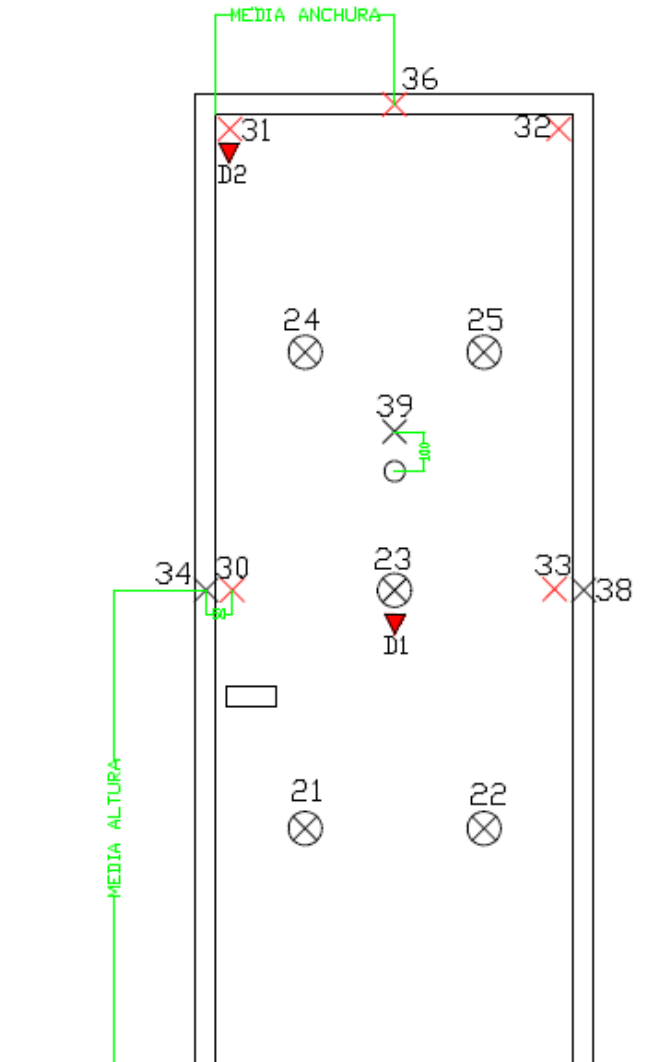

FIGURE 2
5.3.1 Average temperature (individual thermocouples) (see location in figure 2):
5.3.2 Maximum temperature (auxiliary thermocouples) (see location indicated in figure 2):
5.3.3 Maximum temperature of frame (see location indicated in figure 2):
5.3.4 Maximum temperature in the peephole (see location of thermocouples indicated in figure 2):
The deflections on each leaf are measured on different measurement points, as indicated on figure 2 of Annex C.